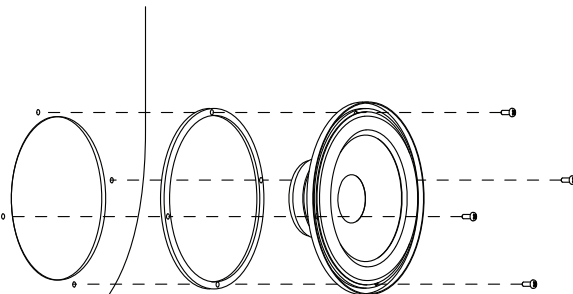

Figure 1
1. Many vehicles already have factory locations (Figure 1) to house the "DROP IN" feature of the SX Coaxial speakers. If no existing locations are available or are not used, check the desired location for adequate cutout area and any depth obstructions. Make sure to allow sufficient clearance for window tracks, structural braces, trunk lid springs, etc.
Phoenix Gold has provided a foam mounting gasket. When installing your new component speakers in a factory location make sure to use the foam mounting gasket as shown in figure 1. For reverse mounted speakers place the foam gasket in front of the speaker. This will ensure an air tight seal for your SX speakers.